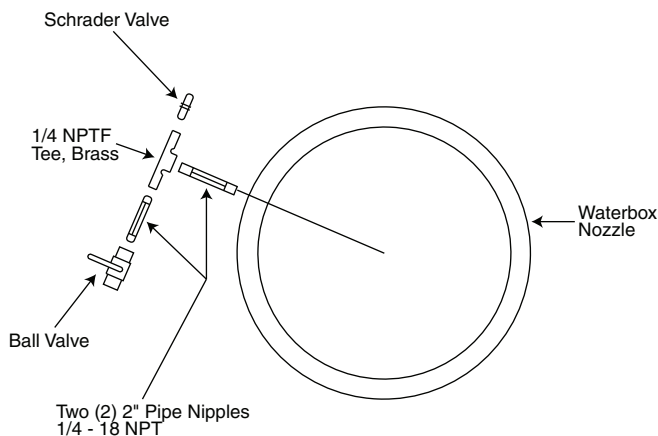

Fig. 49 — Suggested Installation of Pressure Transducers into Water Nozzles Using Flushable Dirt Leg Trap
5. Installation of pressure transducers into water nozzles using flushable dirt leg trap is suggested; see Fig. 49. Pressures can be calibrated between 100 and 250 psig (689.5 and 1723.7 kPa) by attaching a regulated 250 psig (1724 kPa) pressure (usually from a nitrogen cylinder). For calibration, access the Pressure Sensor Calibration Menu from the Maintenance Menu and calibrate the appropriate sensor.